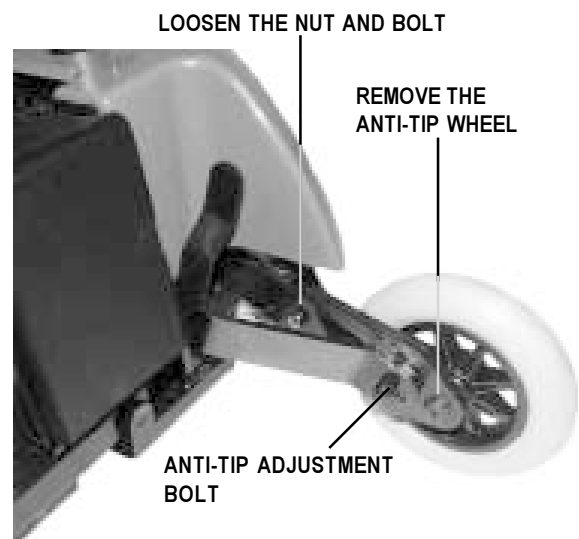

Figure 22. Anti-Tip Wheel Adjustment
1. Use a hex key and a socket to loosen the nut and bolt that fasten the anti-tip spring to the anti-tip arm. See figure 22.